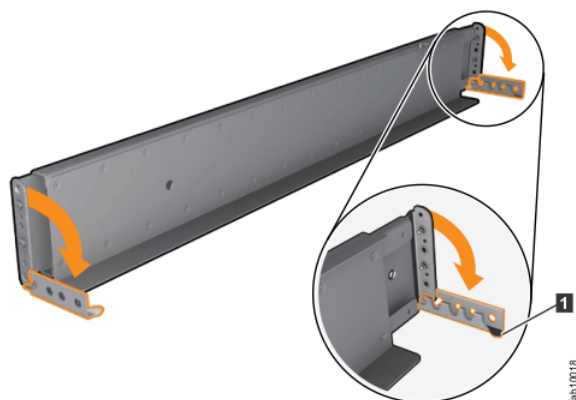

Figure 31. Opening the hinge brackets
- At each end of the rail, grasp the tab **1** and pull *firmly* to open the hinge bracket (see Figure 31 on page 71).